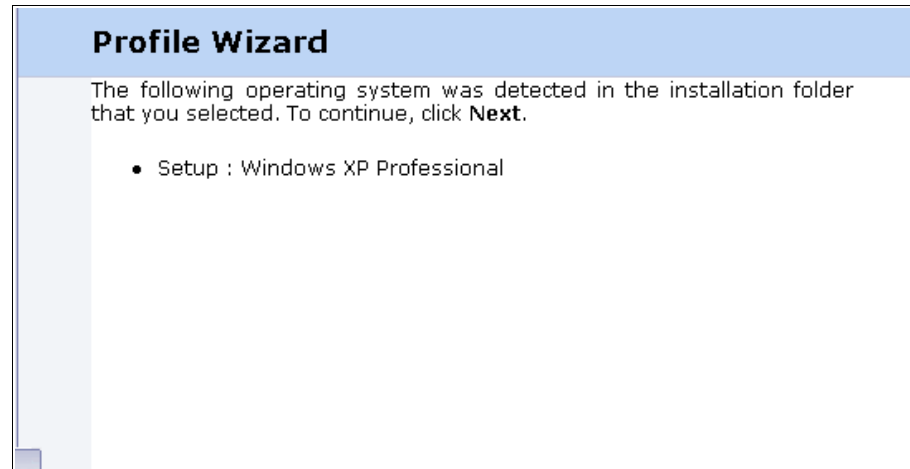

Figure 2-10 Operating system source files detected
7. Next Tivoli Provisioning Manager validates the location that you specify as the source location and detects what installation software is available. In our scenario the profile wizard detects the correct Windows XP operating system and we select the **Next** button to move on to the next window in the profile wizard as shown in Figure 2-10.